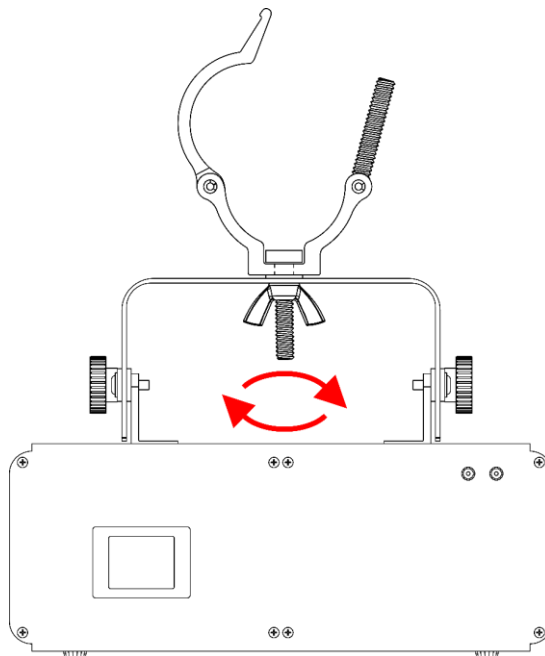

Fig. 05
- 03) Turn the **wing nut (05)** counterclockwise, to remove it.
- 04) Attach a load to the **hex bolt (06)**.
- 05) Put the **wing nut (05)** on the **hex bolt (06)** and turn it clockwise, to tighten the load (Fig. 05).